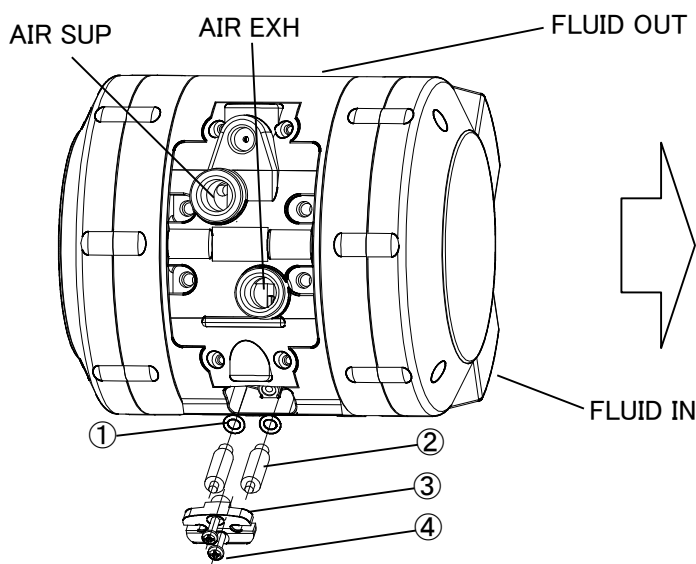

Fig. 1
1. Remove the round head Philips screws below the AIR EXH port of the pump. Then, remove the leakage sensor cover, plug, and O-ring (Fig. 1). The O-ring, leakage sensor cover, and round head Philips screws are used again later. Do not throw them away.